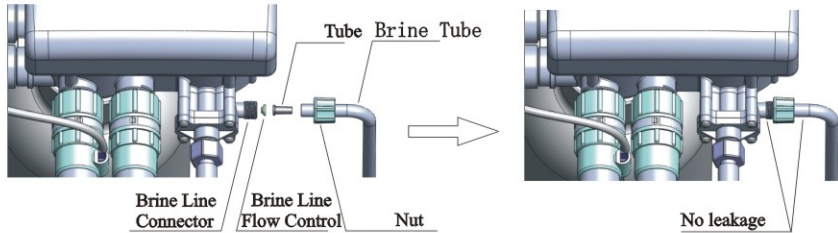

Figure 1-5
⑥ Connect brine tube
- As Figure 1-5 shows, slide 3/8" brine tube hose connector over end of brine tube.